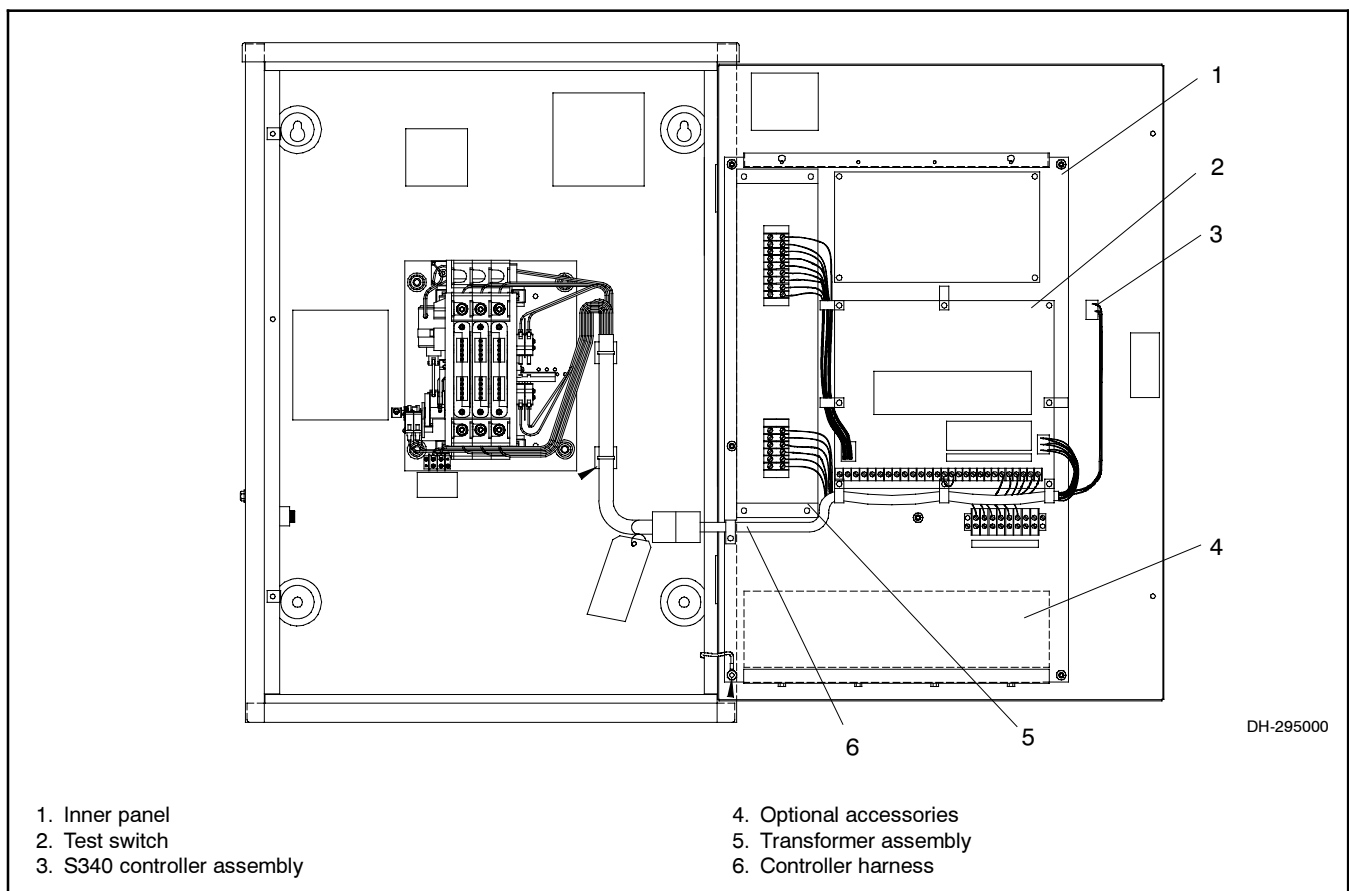
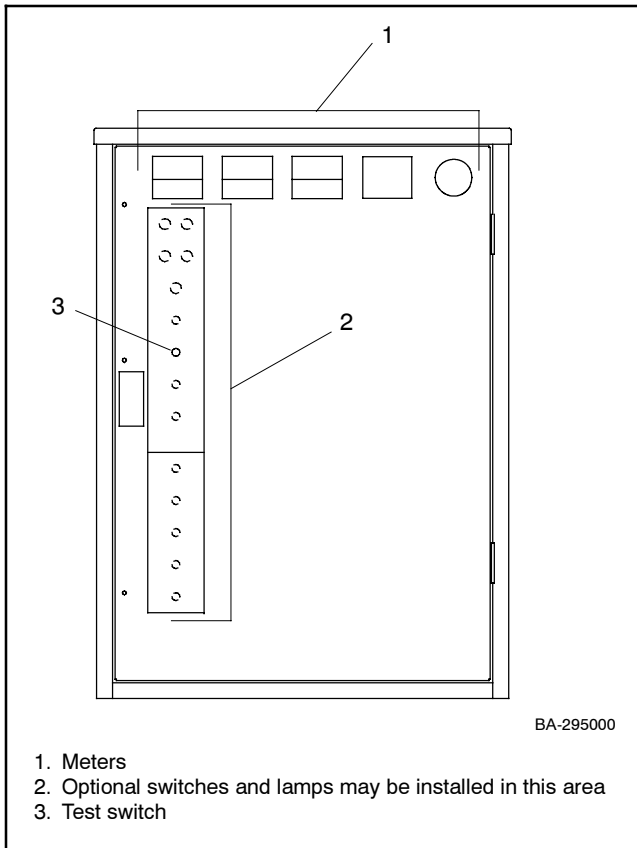

Figure 8 Model GLS-1 ATS with S340 Controls
Figure 9 S340 Controller with Optional Accessories
6. Disconnect and remove the TEST pushbutton. See Figure 8.
7. Disconnect and remove any other optional switches. See Figure 9.
8. If the transfer switch is equipped with meters, disconnect and remove all meters. See Figure 9.
9. Disconnect any other accessories mounted on the inner panel. See Figure 8 and Figure 9.